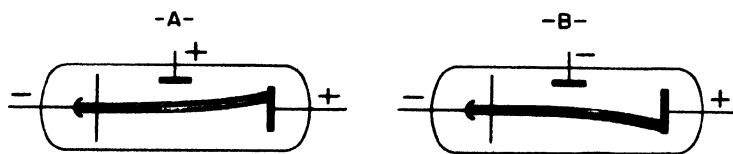

Fig. 42-4. A—The effect on the electron stream of a positive charge.
It also proved possible to deflect the cathode rays by electrically charged plates. Since the cathode ray consists of a stream of electrons, then if a plate carrying a positive charge is placed parallel to the stream, the ray will be attracted toward that plate. Similarly, if the plate has a negative charge on it, the ray will be repelled from it (Fig. 42-4). Thus, by varying the charge on a third plate other than the cathode and anode, the cathode ray can be bent up or down. This plate is known as a *deflector plate*.
**Modern Cathode-Ray Tubes.** Now let us go back to the cathode-ray tube shown in Figure 42-4. We have already learned that if the stream of electrons strikes certain chemicals, such as zinc sulphide, it makes them glow. If we erect a screen coated with these chemicals and focus a beam of cathode rays upon it, we can see where the electrons strike it from the point of light which appears. By observing the motion of this point of light toward and away from the deflector plate, we can visualize the varying charges on the deflector plate.